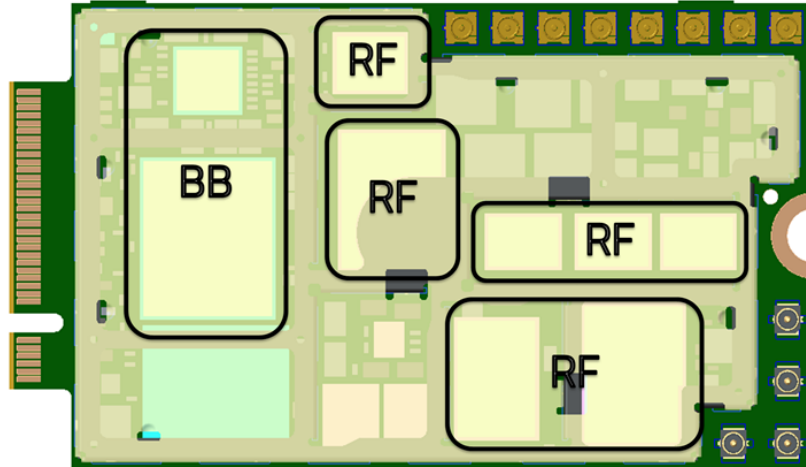
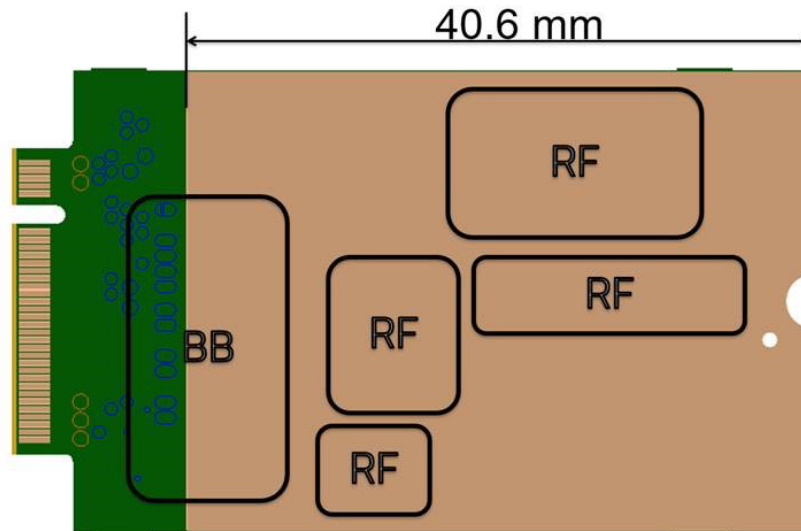

Figure 7-6: Shield Locations (Top View)
Figure 7-7: Copper Pad Location on Bottom Side of Module
Embedded modules can generate significant amounts of heat that must be dissipated in the host device for safety and performance reasons. Figure 7-6 and Figure 7-7 display the location of heat sources
Specific areas requiring heat dissipation are shown in Figure 7-7:
- Monitor temperature at all shield locations. Attach thermocouples to the areas indicated in Figure 7-6 on page 73 (RF, Baseband).